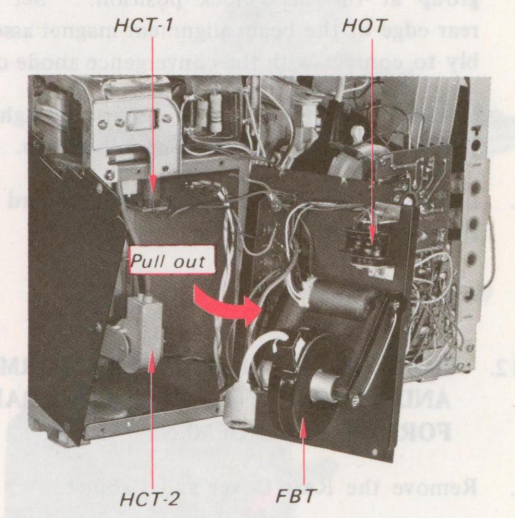

Fig. 2-37. Cage disassembled for access to the flyback and horizontal output transformer
- Pull out the rear of high voltage cage by pulling out the power transformer. See Fig. 2-37.